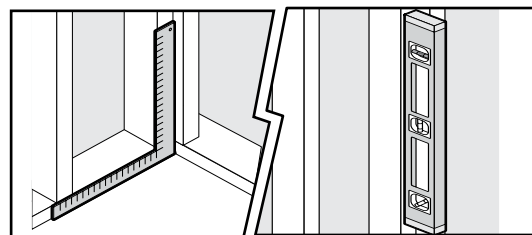

FIGURE 1. Check that studs are plumb with sub-floor/base.
- Sub floor must be clean, smooth, and level (Fig 1). Do not install shower base on open floor joists.